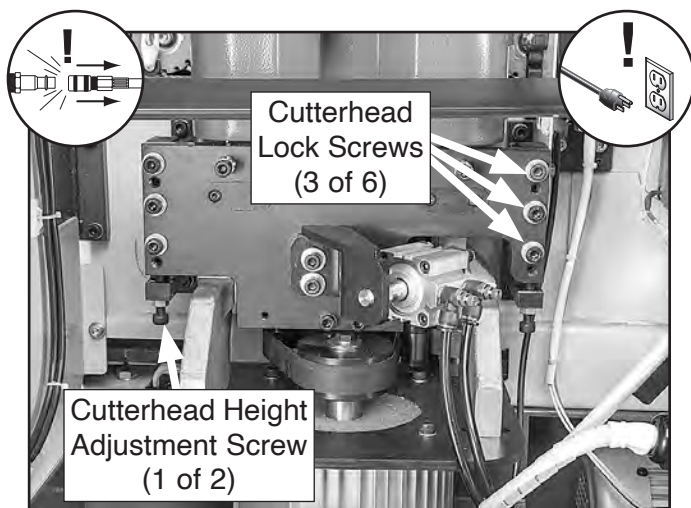

Figure 81. Location of cutterhead lock and adjustment screws.
2. Loosen (6) cutterhead height lock screws (see **Figure 81**).
3. Loosen (2) adjustment screw jam nuts, then rotate adjustment screws *clockwise* to raise cutterhead height, or *counterclockwise* to lower cutterhead height (see **Figure 81**).